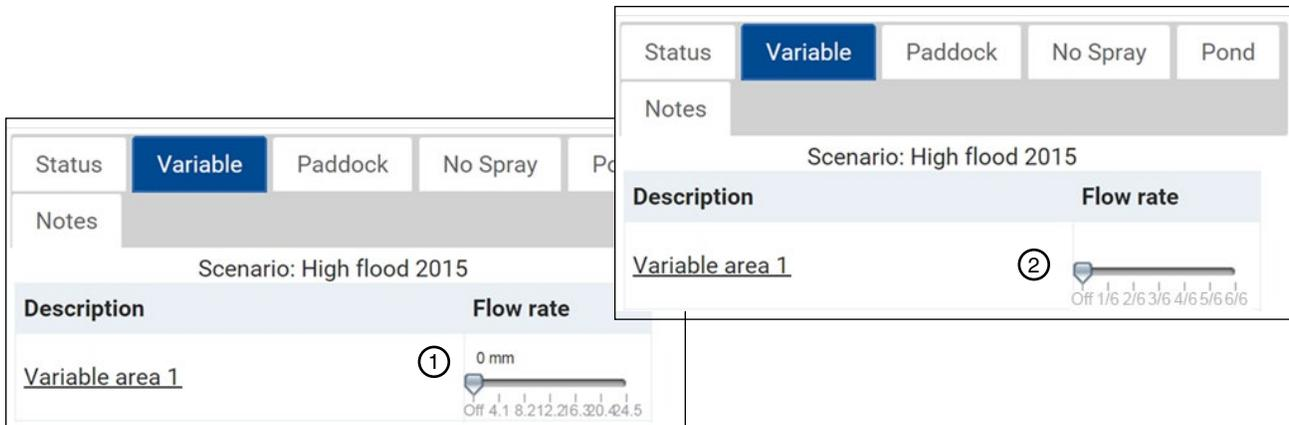

Figure 26-1 1. Flow Rate with Monitoring 2. Flow Rate without Monitoring
1. Navigate to the area tab in which you would like to assign a depth. Refer to Figure 26-1.
2. Use the slide bars to alter application depths for each area. The flow rate is displayed two ways depending on application. With monitoring, the flow rate displays a numerical value representing inches or millimeters. Without monitoring the flow rate displays the fractional value in 1/6 increments. Refer to Figure 26-1.